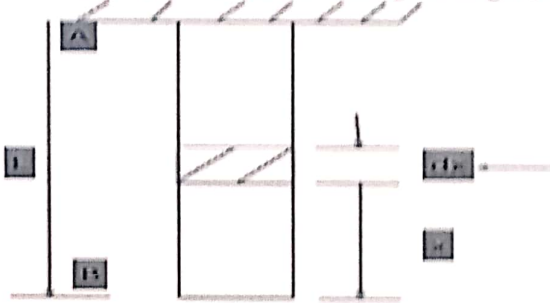

Figure Q1: Bar under loading
- (b) Considering a bar of Length (L), Cross-sectional area (A), Young modulus (E) and specific weight (W) is as shown in Figure Q1. Show that the change in length ( $\delta l$ ) =  $WL/2AE$ . (7 marks)